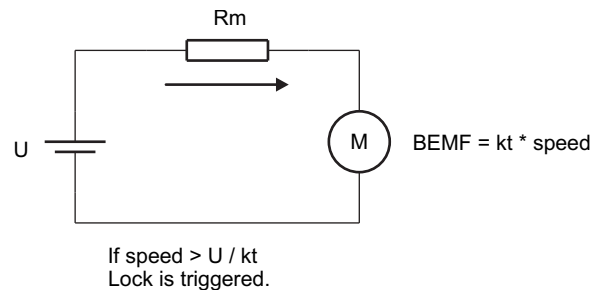

图 11. BEMF Monitoring
If the motor is in normal operation the motor BEMF will always be less than the voltage applied to the phase. The DRV10964 sensorless control algorithm is continuously updating the value of the motor BEMF based on the speed of the motor and the motor Kt as shown in 图 11. If the calculated value for motor BEMF is higher than the applied voltage (U) for a certain period of time (t_{ON_LOCK}) then there is an error in the system. The calculated value for motor BEMF is wrong or the motor is out of phase with the commutation logic. When this condition is detected a lock detect is triggered.